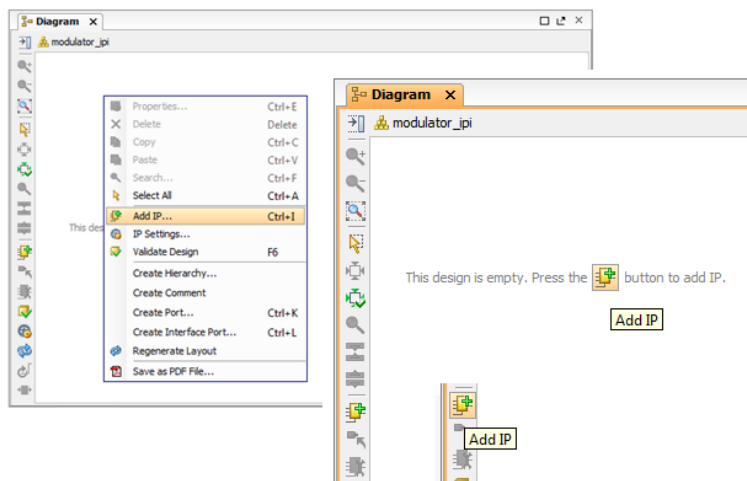

Figure 22. Add IP options
- 3-1-3.** The **modulator_ipi design** is empty. To get started, add IPs from the IP Catalog. You can do that on three ways (Figure 22):